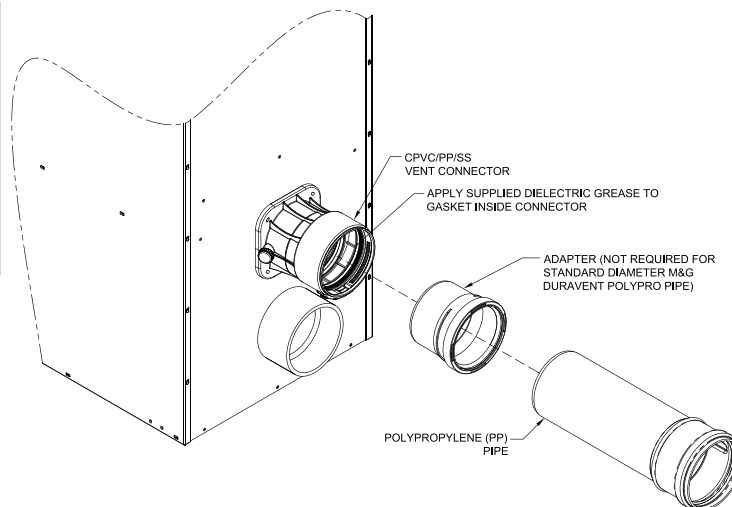

Figure 17: Field Installation of Polypropylene Vent Adapter
- a. Vent Connector (see Figure 17)